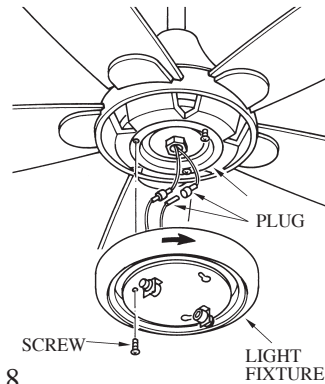

FIG.8
1. Plug in the light wires from fan and the light wires from light fixture (see FIG. 8).